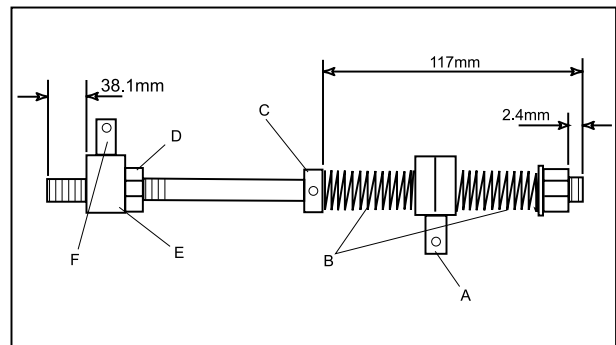

Fig. 6.1.1
- The dimensions in figure 6.1.1 are factory preset and the leveling linkage should not need adjusting. After some time the linkage may require some adjusting. If it is required, only make adjustments on the adjusting connector (E Fig. 6.1.1).